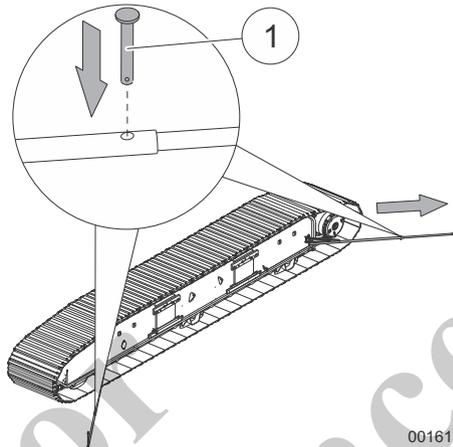

Fig. 108 Pulling out the slewing range safeguard
- 4 Pull out the bolt (1) in Fig. 108. Pull out the slewing range safeguard to its full length. Insert the bolt (1) in Fig. 108 at the position shown.